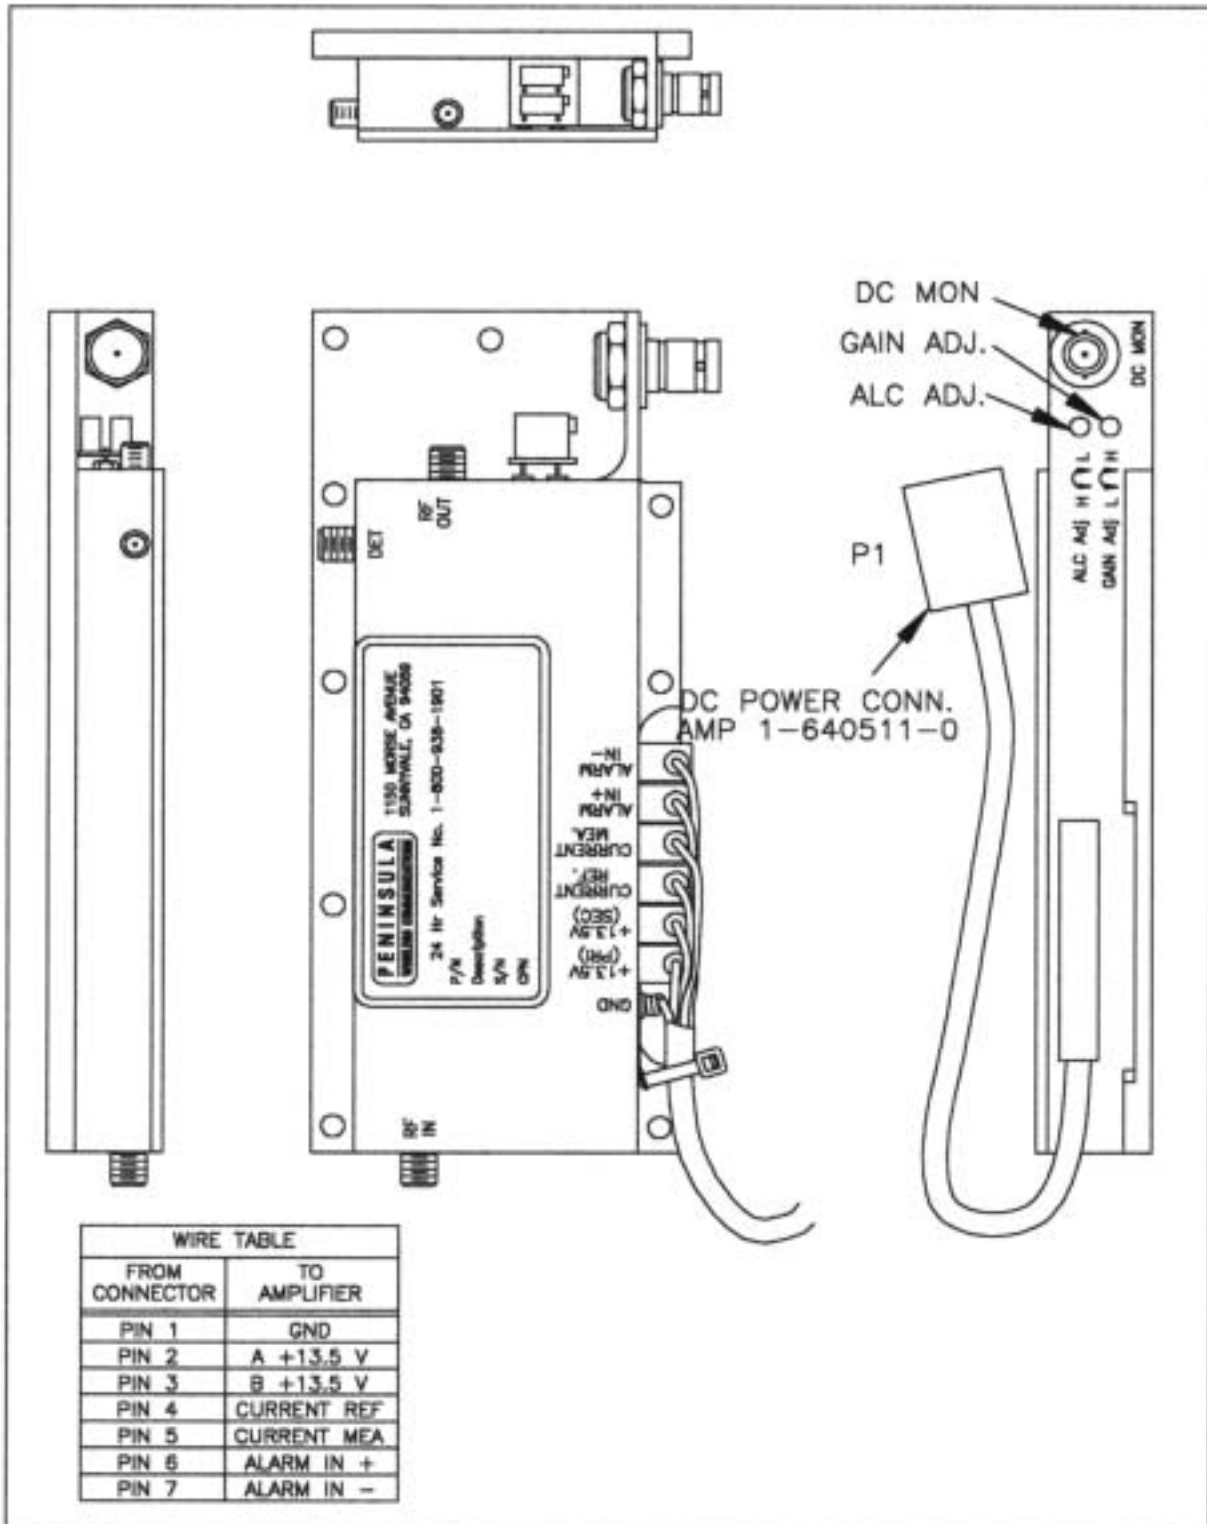

Figure 5. Amplifier
- Directional couplers built into the amplifiers provide signal monitor points (see Figure 5) and allow in-service measurement of transmit output power. The monitor points are calibrated for calculating the actual RF output power at the antenna flange. When power is measured at the PWR MON port of the amplifier, the power meter reading obtained, plus the loss (in dB) marked at the amplifier monitor point, minus the branching loss (in dB) marked on the panel, equals actual transmit output power.
- There is a field-adjustable potentiometer on the amplifier (see Figure 5). The repeater output level and nominal gain is adjusted by the AGC/ALC potentiometer.